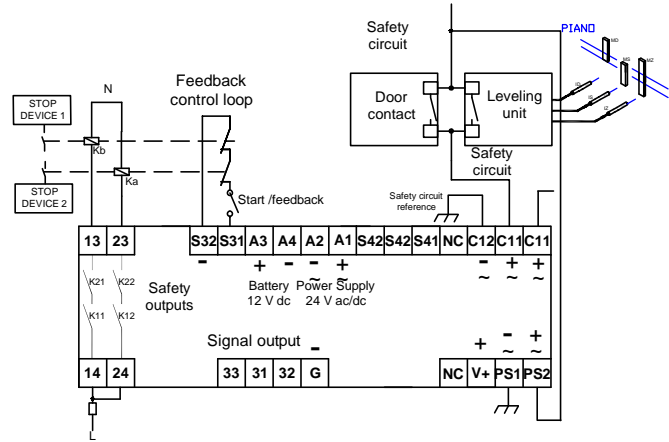

FIG. 1 Safety circuit with restart connection
**Mode safety circuit with restart** (Fig. 1): the system must be equipped with a leveling control unit (NC80, NC96 lift) whose output, in parallel with the safety door contact, is connected to C11 input of the NCUM02. The PS2 input connected before the door contact allows the restart of the NCUM02 after an open/close cycle of a safety contacts wired before the door contact